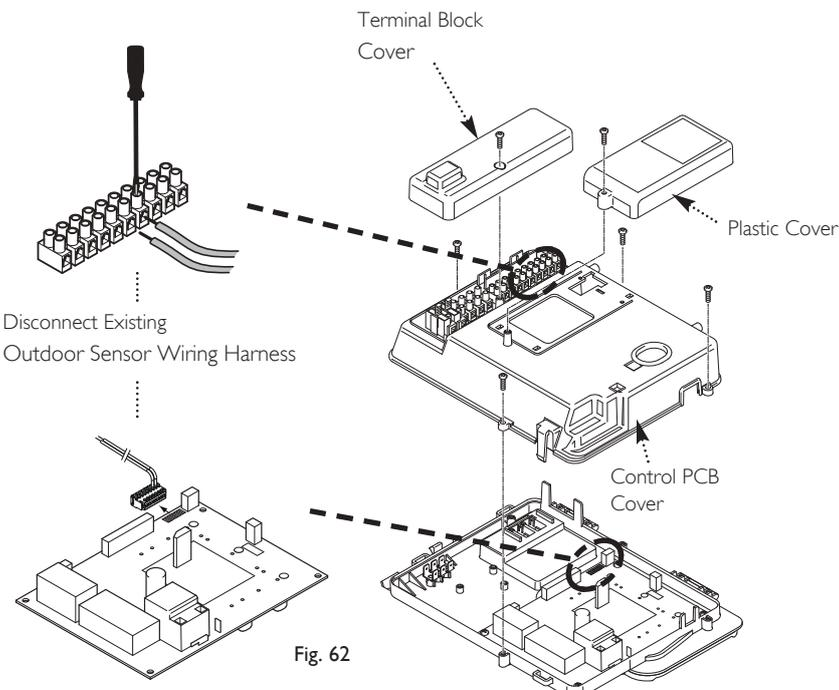

Fig. 62
4. Undo the terminal block cover securing screw and remove the cover (Fig. 62).
5. Undo the plastic cover securing screw and remove (Fig. 62). (This will later be replaced by the relay cover assembly (7211479))
6. Undo the four control PCB cover securing screws so that the control area is accessible (Fig. 62). (You should not need to remove any control wiring to gain access to the control area). Care should be taken to ensure the electrode lead is not disconnected.
8. Disconnect and remove the existing outdoor sensor wiring harness connected between the PCB X20 edge connector and the M2 terminals 4 and 5 (Figs. 62 & 64). Do not use metallic or sharp tools that could damage the PCB or wiring harness.